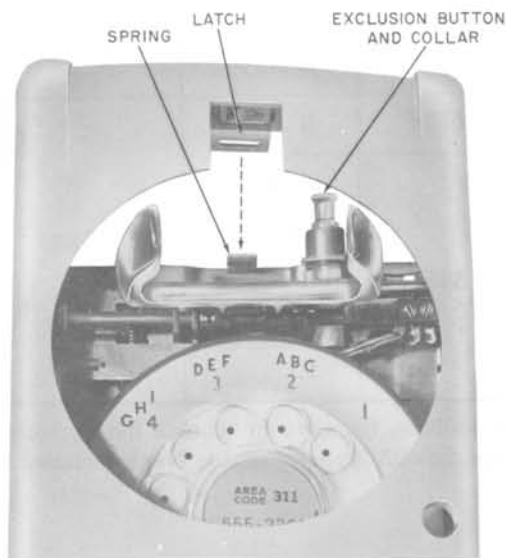

Fig. 6—Replacing Wall Set Housing
- (1) Slip housing over handset hook and dial engaging latchspring assembly (Fig. 6).
- (2) Tilt housing approximately 20 degrees from the wall surface and slide along surface to engage latch. Align exclusion switch plunger with the opening provided.
- (3) Lower housing toward dial surface. Align the upper reinforcing ribs with the slots cut into the baseplate. The collar around